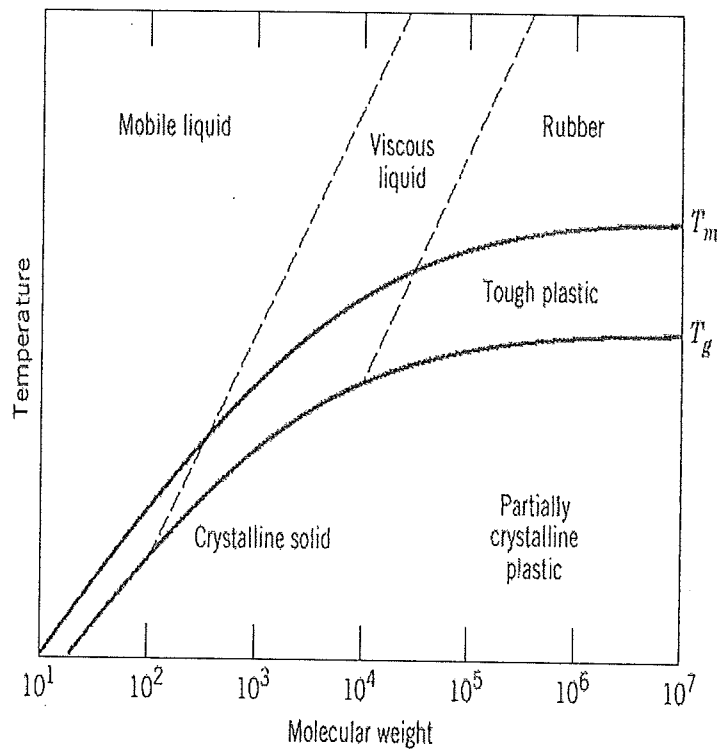

Figure 1
2. [a] Referring to Figure 1, explain why for a particular application, only a certain molecular weight range is suitable for a given polymer.